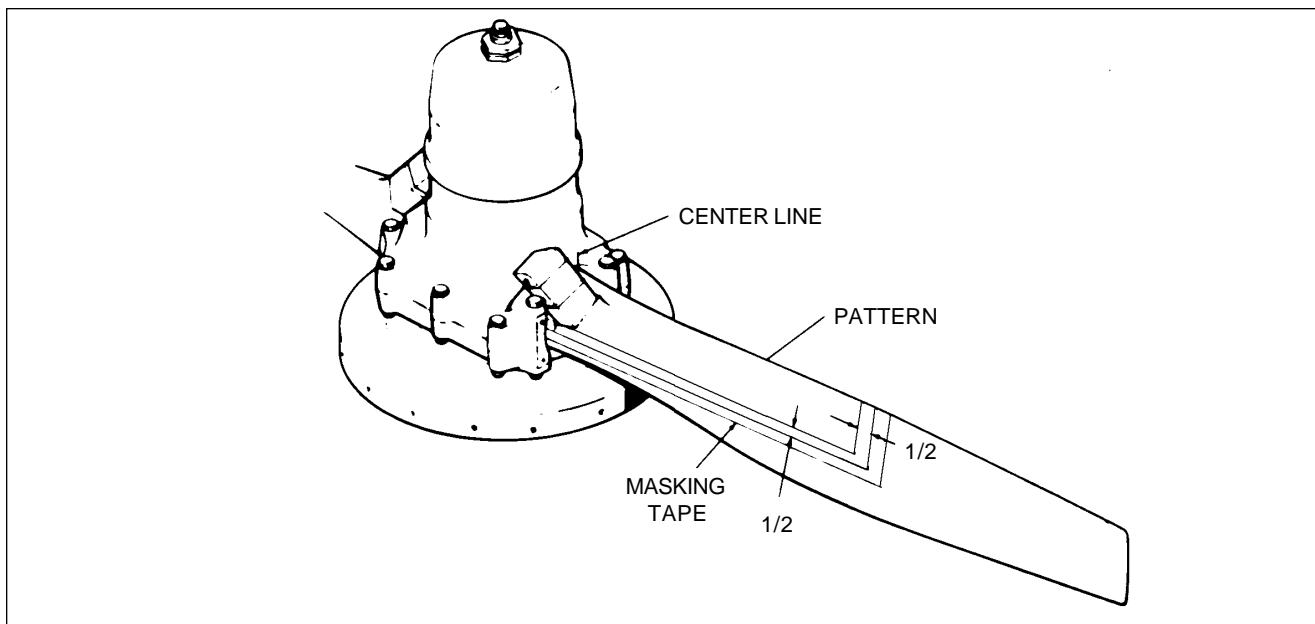

Figure 30-20. Installation of Deicer Boot
1. Mark and cut from masking tape a pattern the size of the propeller deicer. (Refer to Figure 30-20.)
1. When the cement coats are tacky (slightly sticky to the touch - like masking tape), dry on both the propeller surface and deicer surface, position deicer on blade leading edge. Start at hub end, using centerlines as a guide. (Refer to Figure 30-20.)
7. Apply masking tape about .125 of an inch beyond filler or .250 of an inch beyond cemented area when no filler is used, to permit sealer to contact bare metal. Apply one even brush coat of sealer to the area around the deicer. (Refer to Figures 30-20 and 30-22.) Remove masking tape immediately and allow sealer to dry. Allow 12 hours cement curing time before starting engine, allow 24 hours cement curing time before operating the deicers.